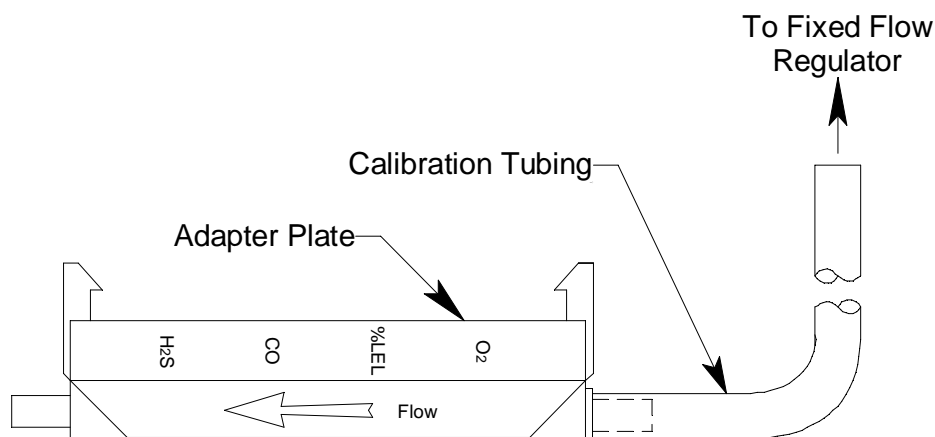

Figure 9: Calibration Kit Assembly
3. Use the sample tubing to connect the calibration adapter plate to the regulator. Attach the tubing to the adapter plate on the inlet side as shown below in Figure 9.